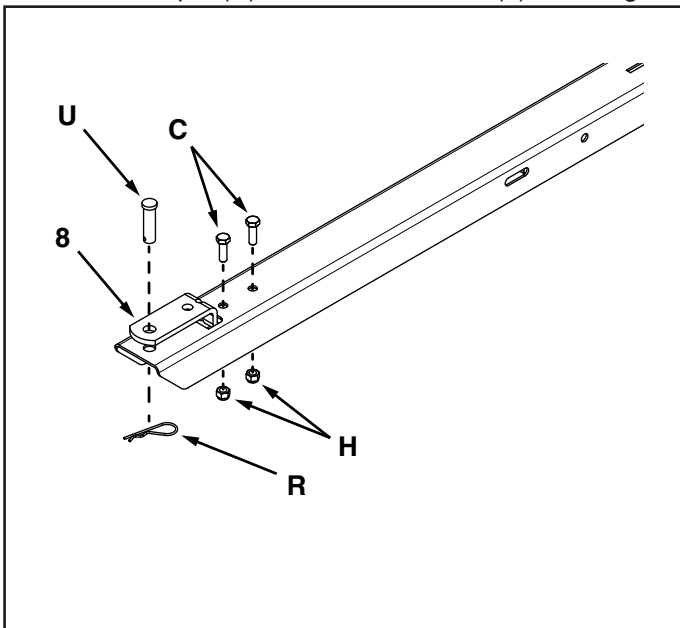

FIGURE 1
- (1) 3/4" Wrench
STEP 1: (SEE FIGURE 1)
2. Insert the hitch bracket (8) through the slot in the tongue and secure it with two 5/16" x 1" (C) hex bolts and 5/16" nylock nuts (H).
3. Install the 1/2" x 1-3/4" clevis pin (U) and the 5/32" hair cotter pin (R) in the hitch bracket (8) and tongue.